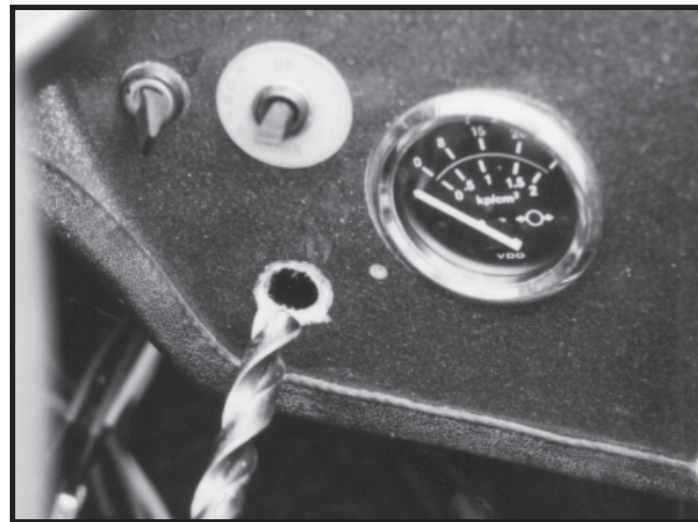

FIG. 18
Step 9: Find a good location for the up-down toggle switch. This toggle switch should be located for easy access while operating the throttle. Use a 1/2 inch drill to drill a hole at the chosen location taking care not to damage wires or brackets. (Fig. 18)